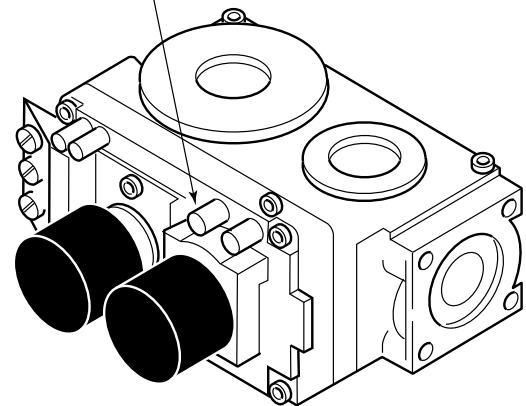

Figure 4.2 - Pressure Test Point Location Millivolt Control
- Valve pressure taps are accessible by removing the right side log. See Figure 4.2.